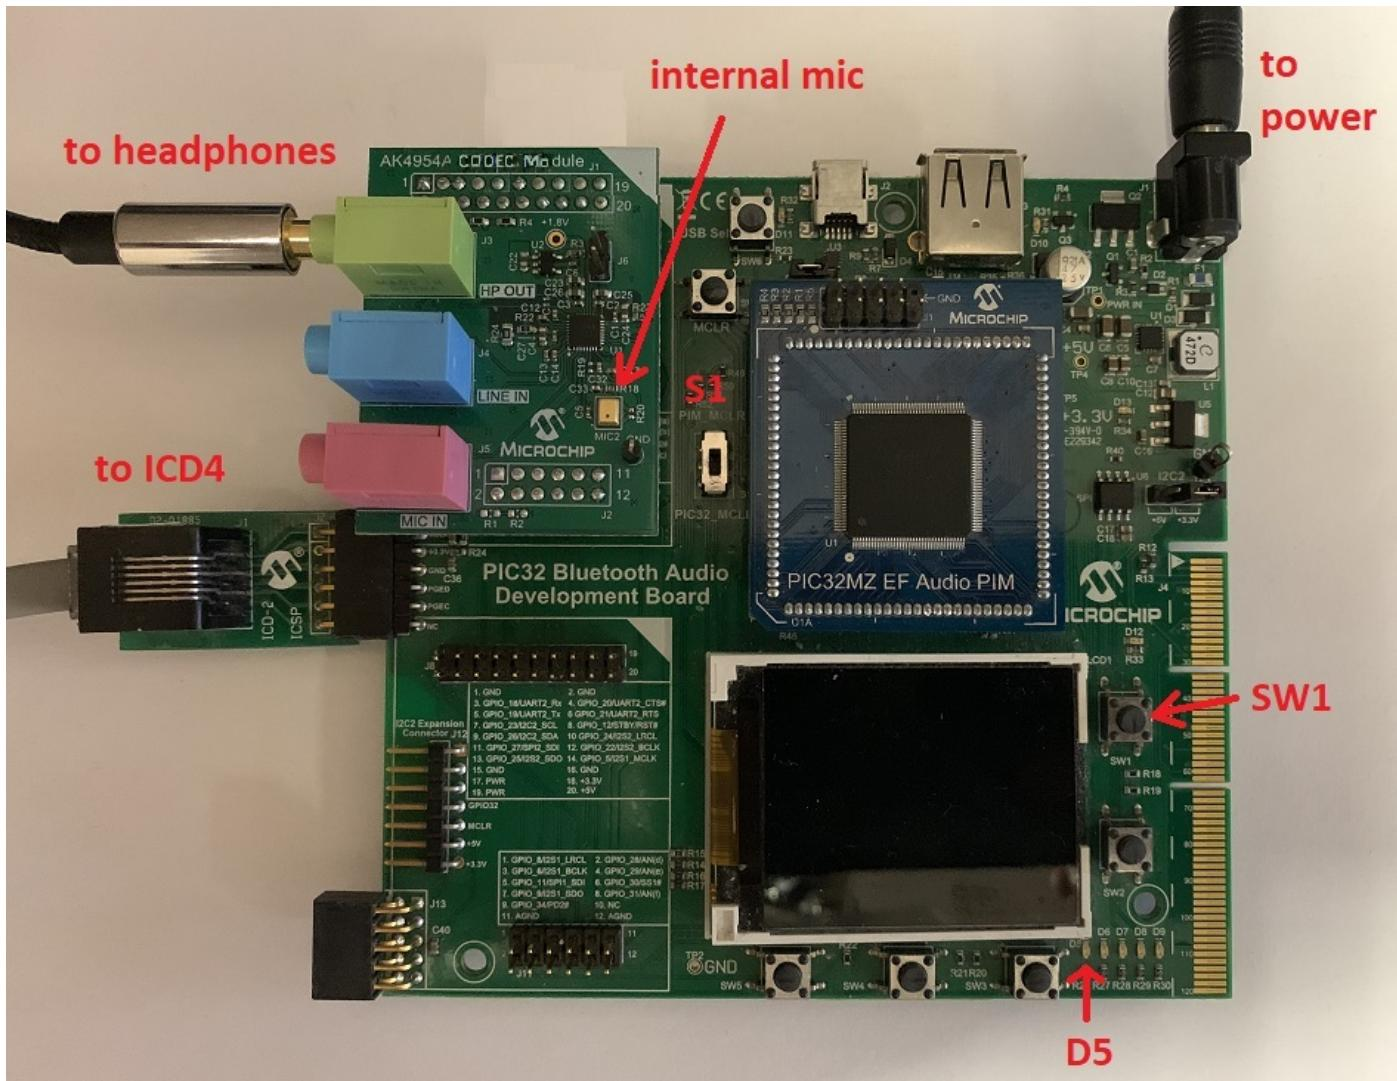
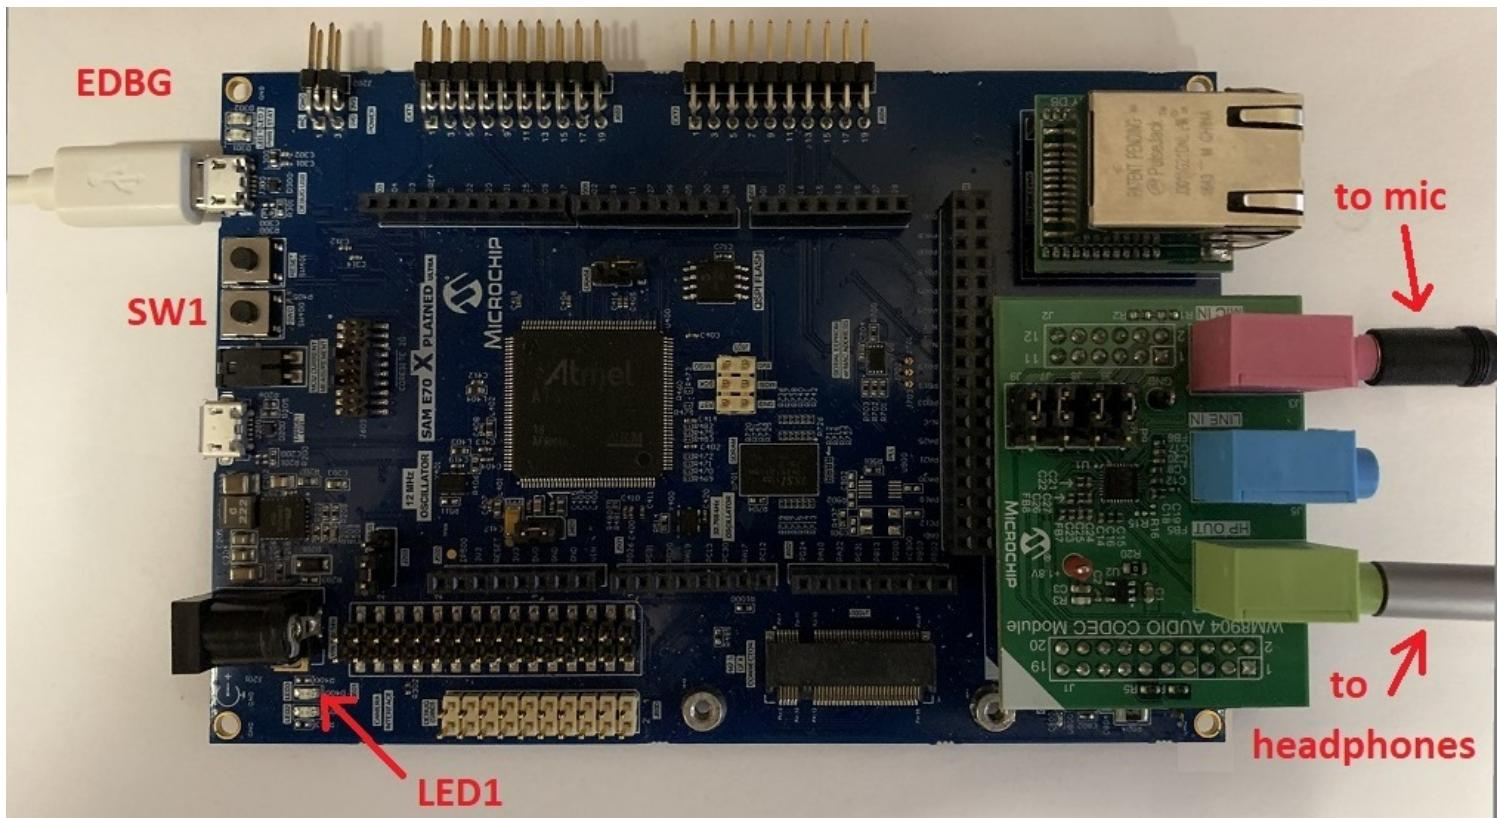

Figure 1: AK4954 Audio Codec Daughter Board on Bluetooth Audio Development Kit with PIC32MZ EF Audio PIM
Figure 2: WM8904 Audio Codec Daughter Board on SAM E70 Xplained Ultra board
2. If applicable, connect a microphone to the MIC IN jack of the WM8904 Audio Codec Daughter Board (see **Figure 2**), or the MICROPHONE jack of the SAM V71 Xplained Ultra board. (For the AK4954, the internal microphone contained on the daughterboard is used instead, see **Figure 1**.)
1. Connect headphones to the HP OUT jack of the WM8904 Audio Codec Daughter Board (see Figure 1).
2. Connect a microphone to the MIC IN jack of the WM8904 Audio Codec Daughter Board (see Figure 1).